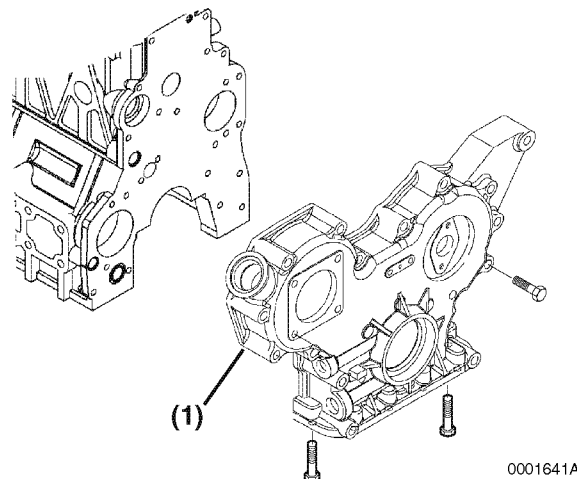

Figure 6-149
1. Apply a continuous bead of ThreeBond Liquid Gasket No. 1212, Yanmar Part No. 977770-01212 to the mounting area of the gear case cover (Figure 6-149, (1)). Be sure to circle the bolt holes.